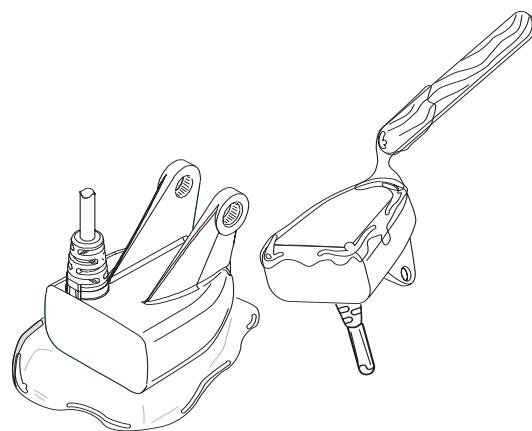

Figure 14
5. Press the transducer into place with a slight twisting motion to purge any trapped air from underneath, keeping the pointed end of the transducer body pointed forward (Figure 14).